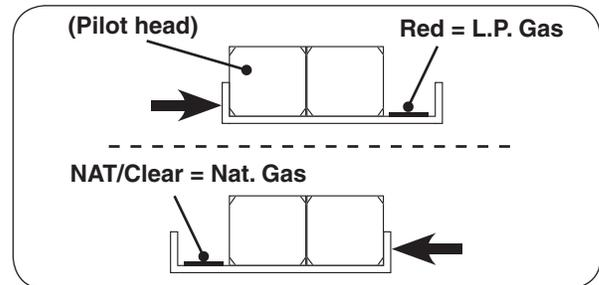

Fig. 4-4 Orifice lever settings
**Important:** Ensure the lever is completely pushed to the side the unit is being converted to. Reference Fig. 4-4 and the table below.